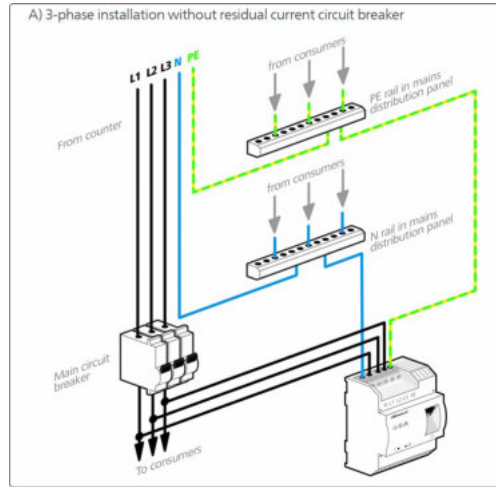

Fig. 5
- **Three-phase connection:** Neutral conductors and three external conductors are connected to terminals **N**, **L1**, **L2** and **L3**. The device is **supplied with power** via terminals **N** and **L1** (see Fig. 5).